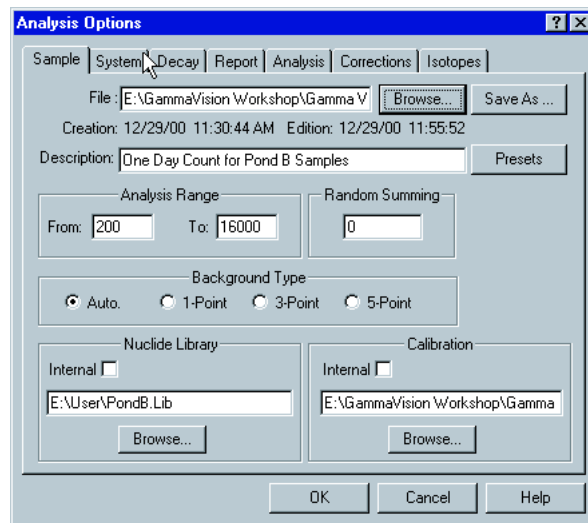

Fig. 36
2.10 Complete the **Sample** tab by performing the following (Fig 36 can be used as a guide):